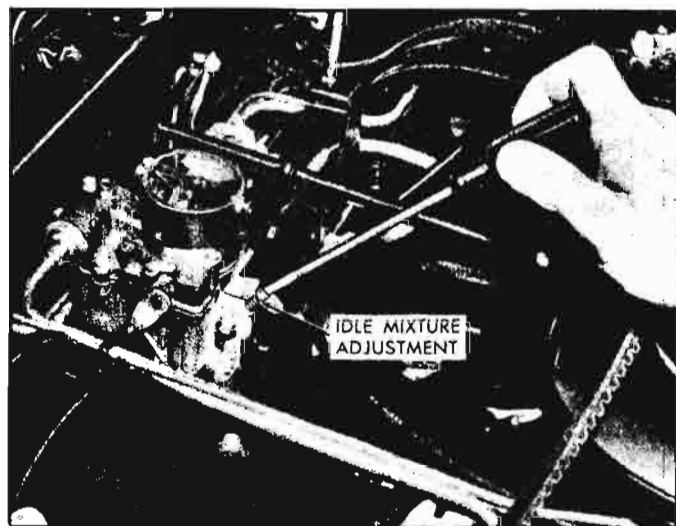

Fig. 9-12—Idle Mixture Adjustment
- Adjust curb idle speed (duplicate adjustment on both carburetors) to attain approximately 500 rpm (automatic transmission in drive and synchromesh in neutral, hand brake applied). Adjust idle mixture screws (fig. 9-12) on both carburetors to obtain peak steady vacuum at given idle speed.